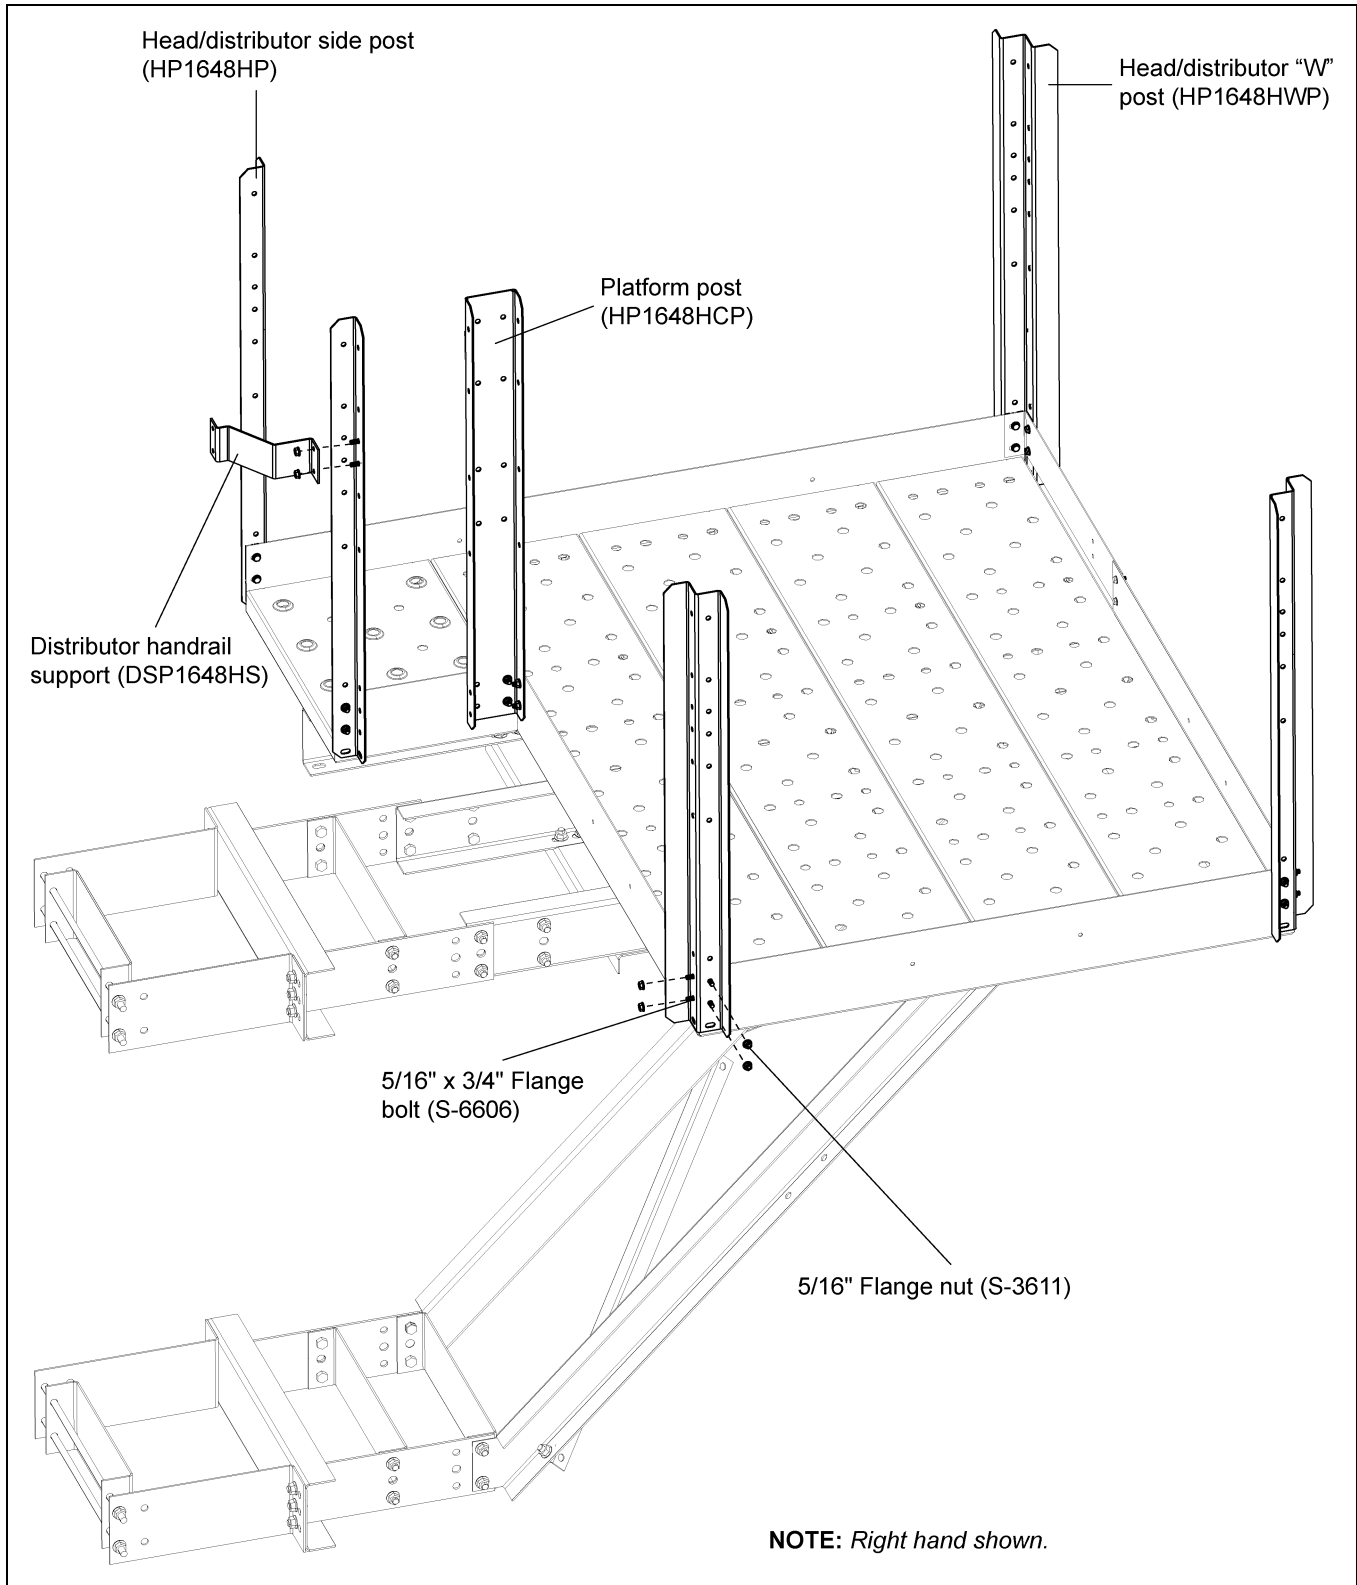

Figure 12M
4. Install distributor handrail support to the side post on the inside, located closest to the trunking through holes 3 and 4 counting from the top of the post. Use two (2) 5/16" x 3/4" flange bolts and nuts to fasten in place. (See Figure 12M.)